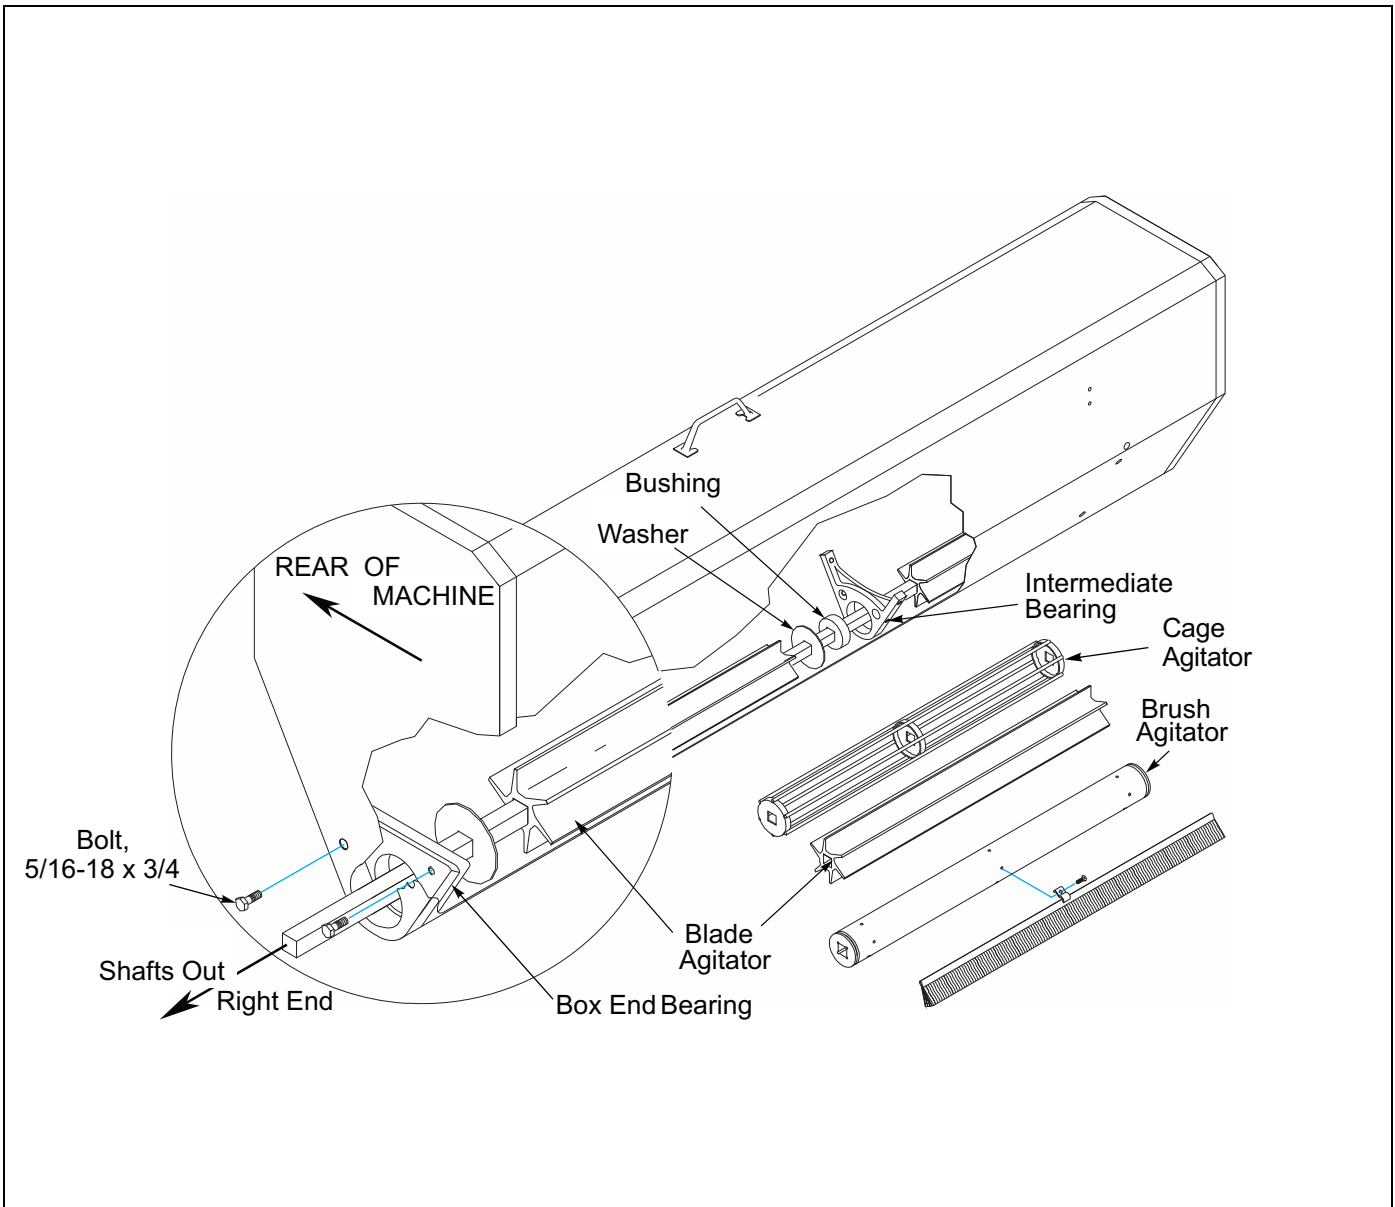

Figure 3-2: Agitator Blades
1. Remove two bolts which hold end bearing on the right end of the right seed box. See Figure 3-2.